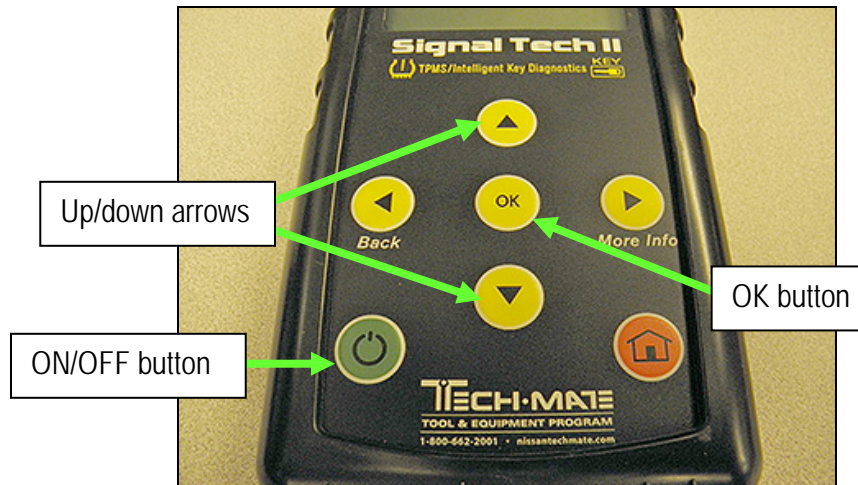

Figure 1
1. Turn ON the Signal Tech-II (see Figure 1 on page 1).
**NOTE:** This procedure will refer to the yellow up/down arrows and OK button on the Signal Tech-II key pad. Refer to Figure 1 on page 1 as needed.